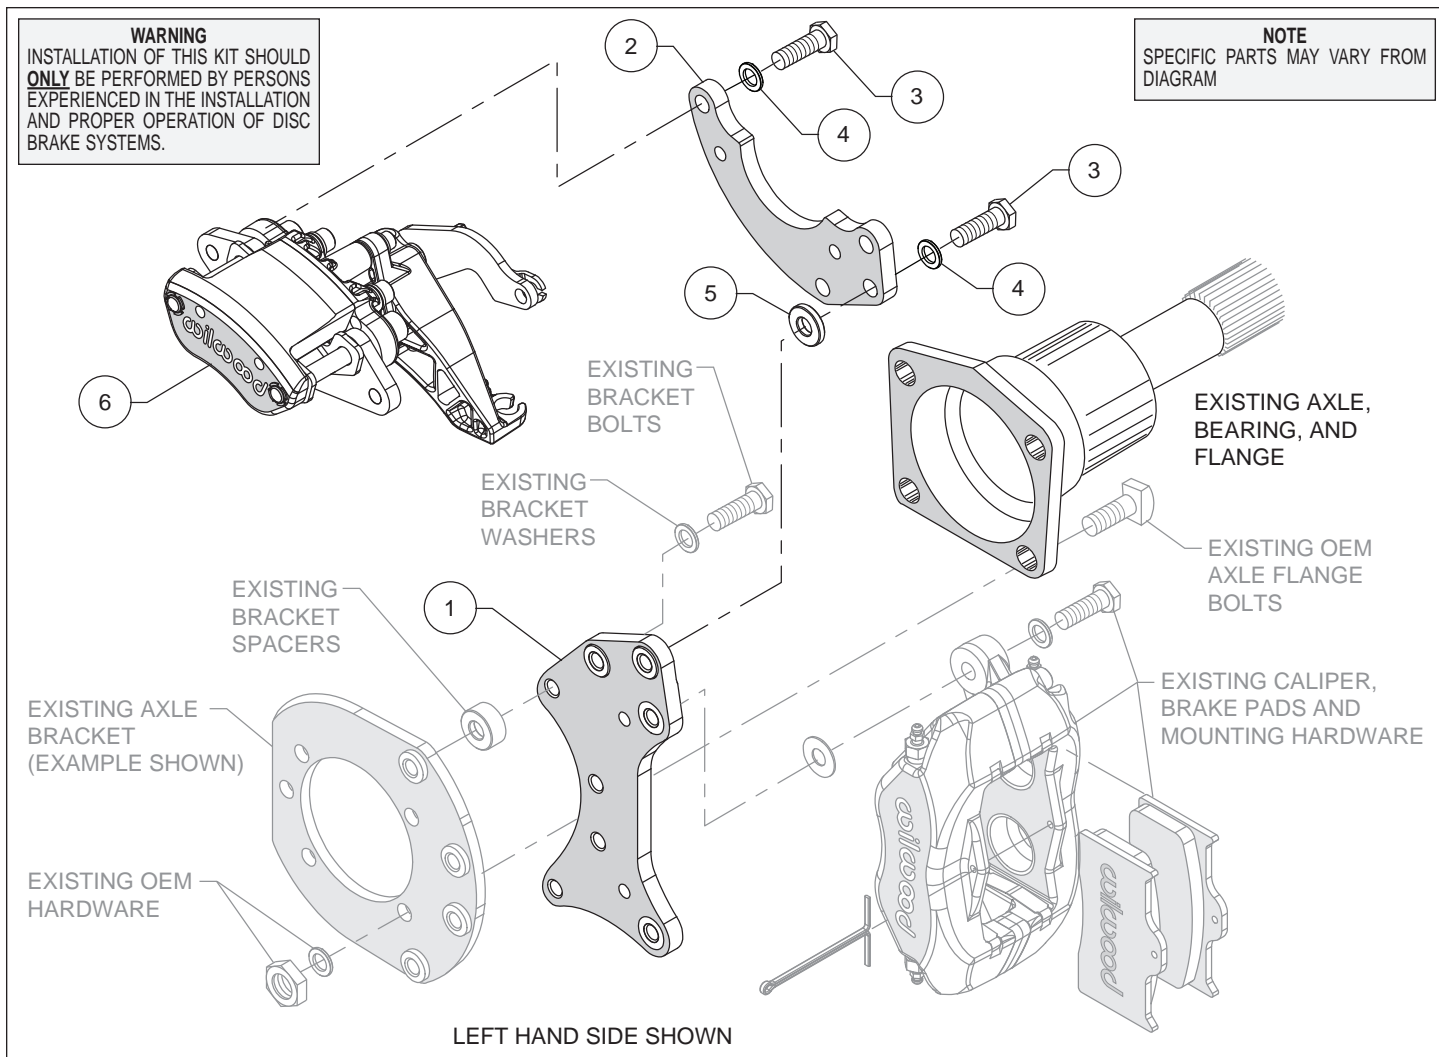
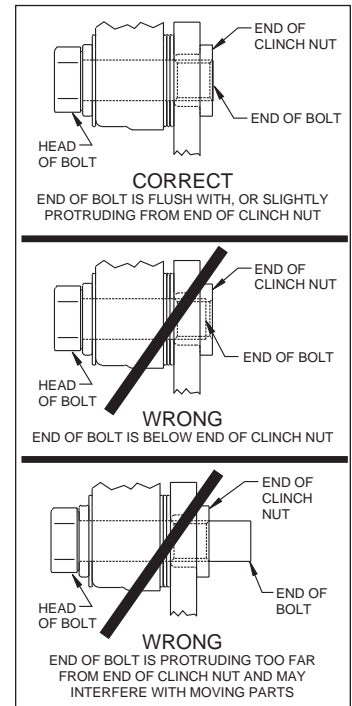

Figure 1. Typical Installation Configuration
Figure 3. Clinch Nut Engagement Diagram
Assembly Instructions (numbers in parenthesis refer to the parts list, and Figure 1 on the preceding pages): **CAUTION:** All mounting bolts must fully engage clinch nuts. Be sure to check that all bolts are either flush or protruding through flanged side of clinch nut after shimming, Figure 3.
- Orient the new caliper mount bracket (1) and the existing axle flange bracket as shown in Figure 1 and Photo 1, and assemble using saved bolts, washers, spacers, and shims (if any). **NOTE:** The spacing between the two brackets must be the same as it was for the old bracket assembly. Apply red *Loctite*® 271 to the bolt threads and torque to 40 ft-lbs.
- Attach the MC4 flat caliper bracket (2) to the caliper mount bracket (1) using bolts (3), washers (4), and spacers (5) as shown in Figure 1 and Photo 1. Apply red *Loctite*® 271 to the bolt threads and torque to 40 ft-lbs.
- Orient the bracket assembly as shown in Figure 1, and re-mount it to the axle housing flange using the saved OEM bolts/nuts, Figure 1. Apply red *Loctite*® 271 to the bolt threads and torque to manufacturer's specification.
- Mount the parking brake caliper (6) onto the MC4 caliper mounting flat bracket (2) using bolts (3) and washers (4), as shown in Figure 1 and Photo 2. Apply red *Loctite*® 271 to bolt threads, and torque to 40 ft-lb.